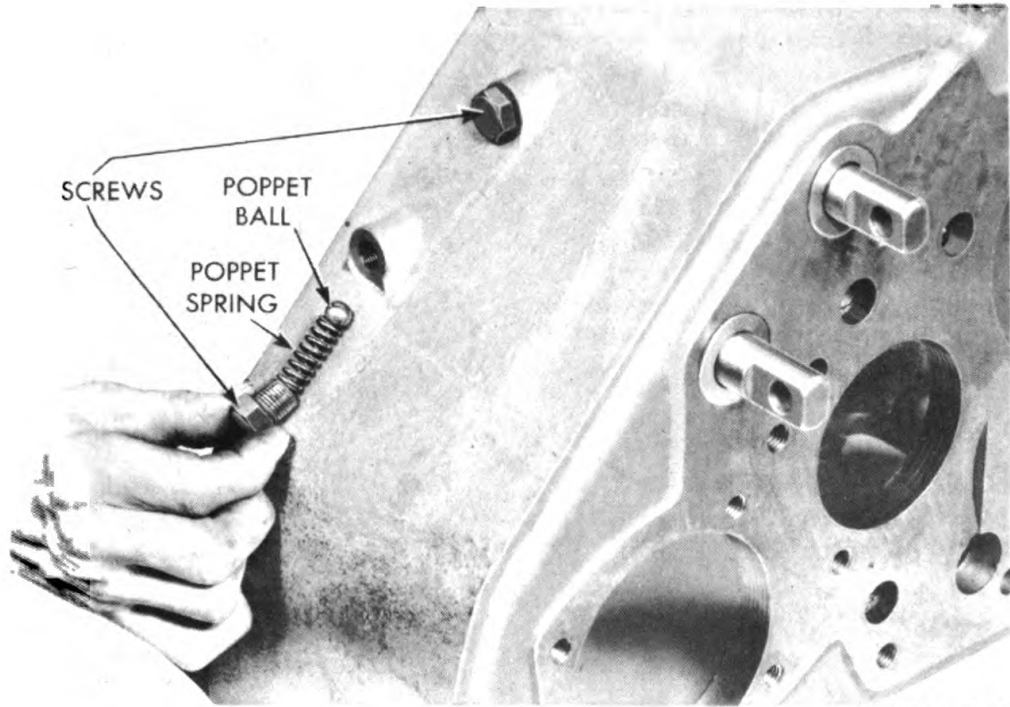

**Figure 174 — Removing
w. **Remove Transfer Case Main Shaft.** Remove four cap screws and lock washers holding bearing cap and oil seal to transfer case. Remove cap with oil seal and gasket from case (fig. 172). Place a small wood block, 2 x 3½ x 3½ inches, between under-drive gear and front of case, and drive mainshaft out of gear, using a lead hammer (fig. 173). Thrust washer will drop to bottom of case when shaft is removed. Remove gear and sliding clutch collar from case (fig. 174). Remove thrust washer from bottom of case, and drive bearing out of case.